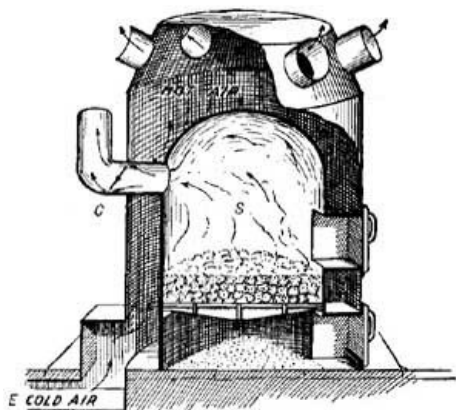

FIG. 13.—A furnace. Pipes conduct hot air to the rooms.
**9. Furnaces. Hot Air.** The labor involved in the care of numerous stoves is considerable, and hence the advent of a central heating stove, or furnace, was a great saving in strength and fuel. A furnace is a stove arranged as in Figure 13. The stove *S*, like all other stoves, has an inlet for air and an outlet *C* for smoke; but in addition, it has built around it a chamber in which air circulates and is warmed. The air warmed by the stove is forced upward by